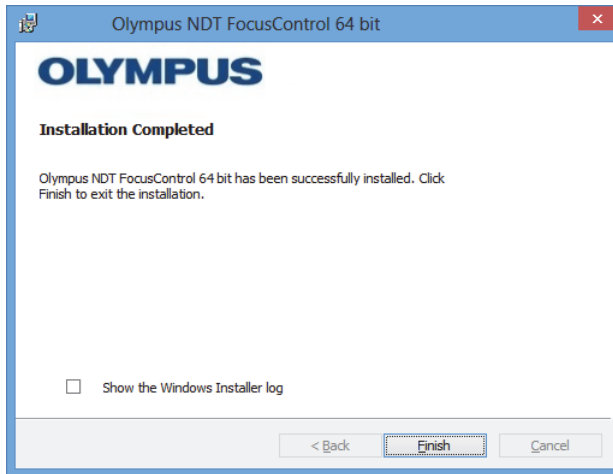

Figure 1-9 The Installation Completed page
- a) Click **Finish** in the **Installation Completed** page to complete the installation (see Figure 1-9 on page 22).